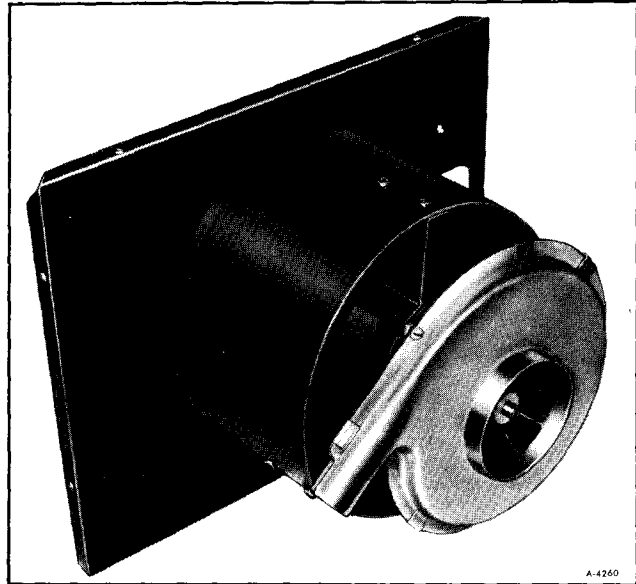

Figure 30—Blower Assembly
10. Remove blower assembly (figure 30).